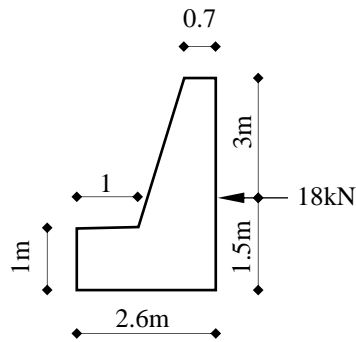

Fig. 3
- c) The retaining wall shown in figure 3 weighs 22kN/m^3 . Calculate the factor of safety against overturning. (10 marks)